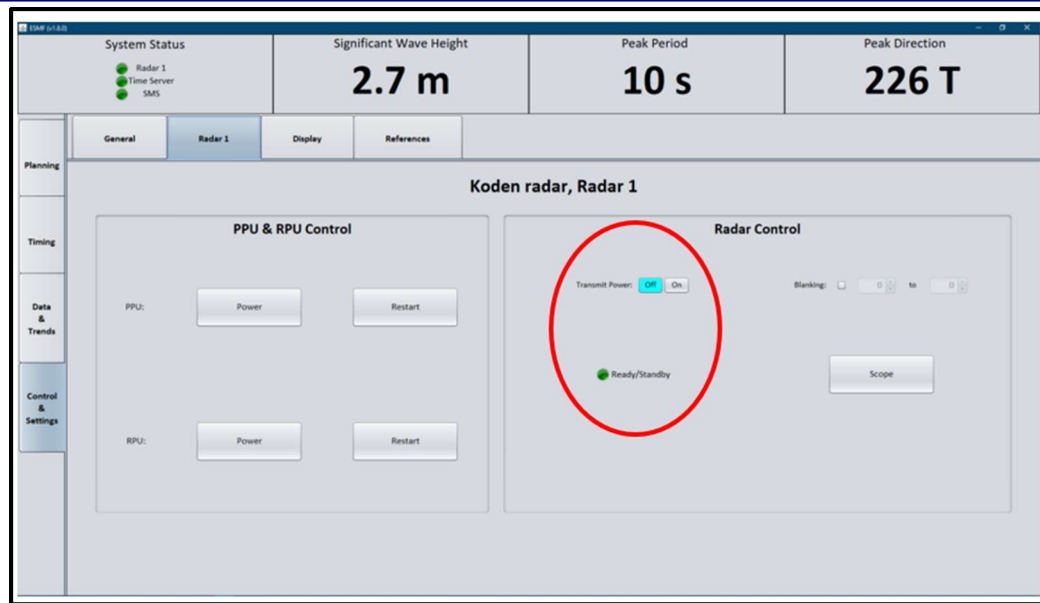

Figure A3: Location of the ‘Transmit Power’ buttons and ‘Ready Status’ indicator in the *Radar Control* section of the **Radar-1 Tab**.
6. (Refer to Figure A3) The next step is to start the radar. Click **Radar-1** on the upper horizontal tabs. Look at the *Radar Control* section on the right half of the display. The 'Transmit Power' should be 'Off' because the radar is not transmitting. The 'Ready Status' indicator should indicate green if the radar subsystem is ready to begin transmitting.